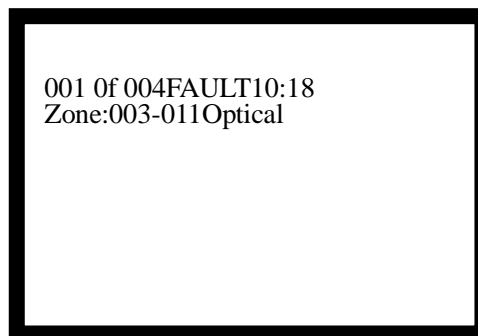

Fig. 5-4
- The LCD displays the fault message of the net device. The fault screen is as in Fig. 5-4.